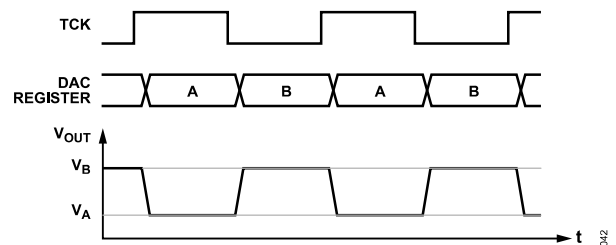

Figure 49. TCK Timing
When the TCK signal is high the DAC outputs a voltage (V_A) corresponding to Input Register A, and when TCK is low, the DAC outputs a voltage (V_B) corresponding to Input Register B (see Figure 49). The toggle function can be disabled by writing 0x0000 to the toggle/dither enable register (Command 11).
7. Apply the toggle clock signal to the TGP2 pin. The DAC output voltage changes on the rising and falling edges of the toggle clock signal as shown in Figure 49.